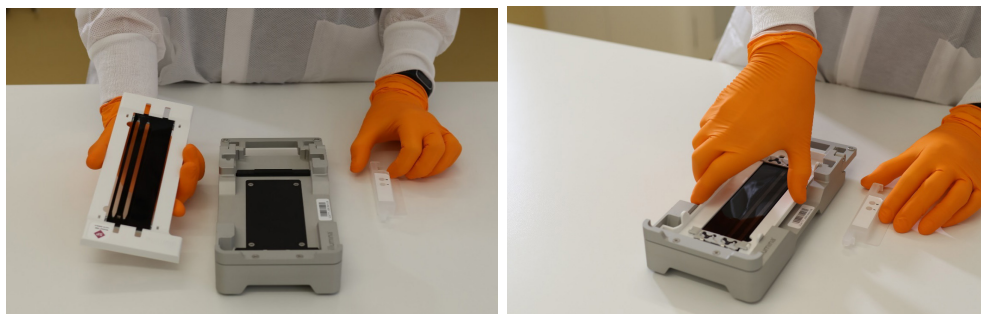

Figure 2. Placing flow cell on the dock
8. Invert the flow cell so that the top surface faces downward. Slip the outlet end of the flow cell under the bracket at the top of the NovaSeq™ Xp flow cell dock. Place the flow cell on the dock (*Figure 2*).